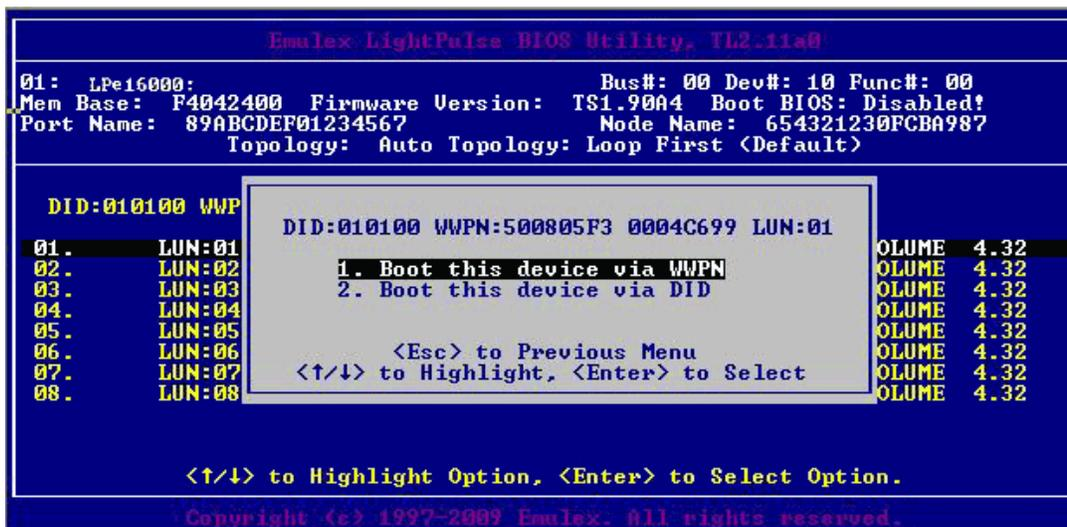

Figure 4-7 Boot Devices Menu
5. Type the two digits corresponding to the entry you are selecting. The boot devices menu (Figure 4-7 on page 30) is displayed.